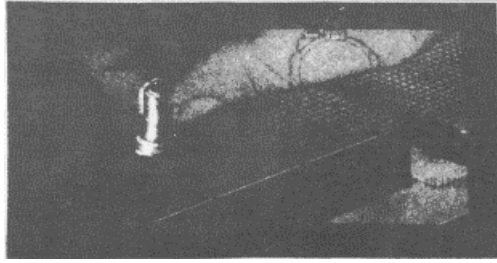

Fig. 33
- (1) Clean the lapping blocks (J 22090) with compressed air. Do not use a cloth or any other material for this purpose.
- (2) Spread a good quality 600 grit dry lapping powder on one of the lapping blocks.
- (3) Place the part to be lapped flat on the block as shown in Fig. 33 and, using a figure-eight motion, move it back and forth across the block. Do not press on the part, but use just enough pressure to keep the part flat on the block. It is important that the part be kept flat on the block at all times.
- (4) After each four or five passes, clean the lapping powder from the part by drawing it across a clean piece of tissue placed on a flat surface and inspect the part. Do not lap excessively (refer to Table 1).